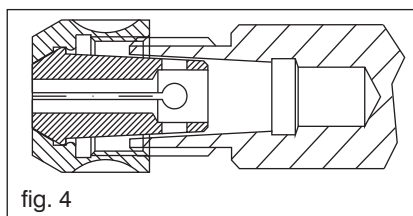

fig. 4
3. Screw this combination on the thread of the collet chuck seat (fig. 4)